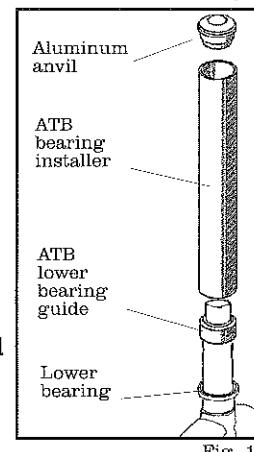

Fig. 18
17. Place the **ATB lower bearing guide** over the end of the steerer (Fig. 18).